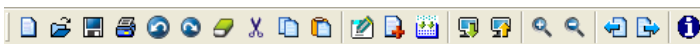

Figure 2-18 Standard toolbar
- **Standard toolbar:** It provides common functions that the menu bar has, as shown in Figure 2-18.